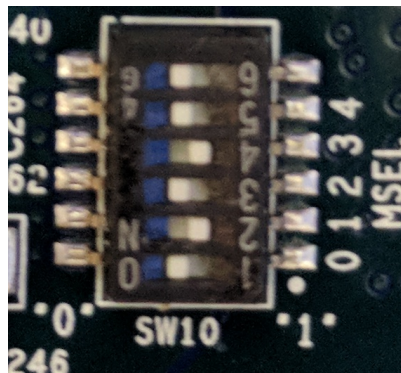

Figure 11: Correct switch setup for OpenCL.
1. First, you need to change the switches on the bottom of the board. You will set them to **001010** from highest to lowest order as shown in Figure 11.